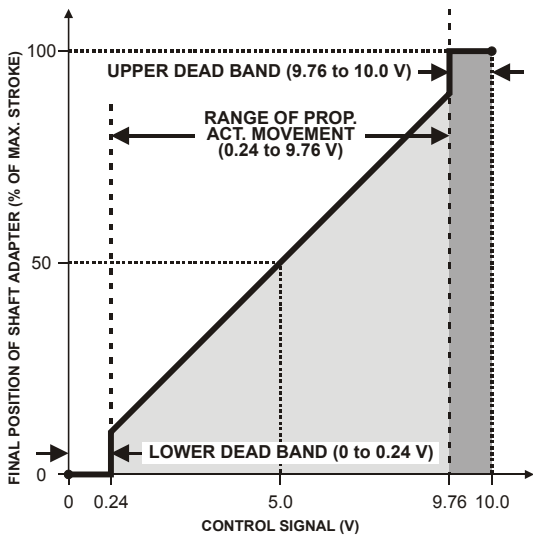

Fig. 4. Final actuator position in dependence upon control signal (func. selection switch set to)
- The control signal’s value rises up into the upper dead band (i.e., to more than the max. control signal minus 0.14V) or drops down into the lower dead band (i.e., to less than the min. control signal plus 0.14V), and if the shaft adapter can remain at the respective (upper or lower) mechanical end limit at least 3 seconds – the actuator will then recognize the new position automatically, and auto-adaption will be carried out (see Fig. 4).